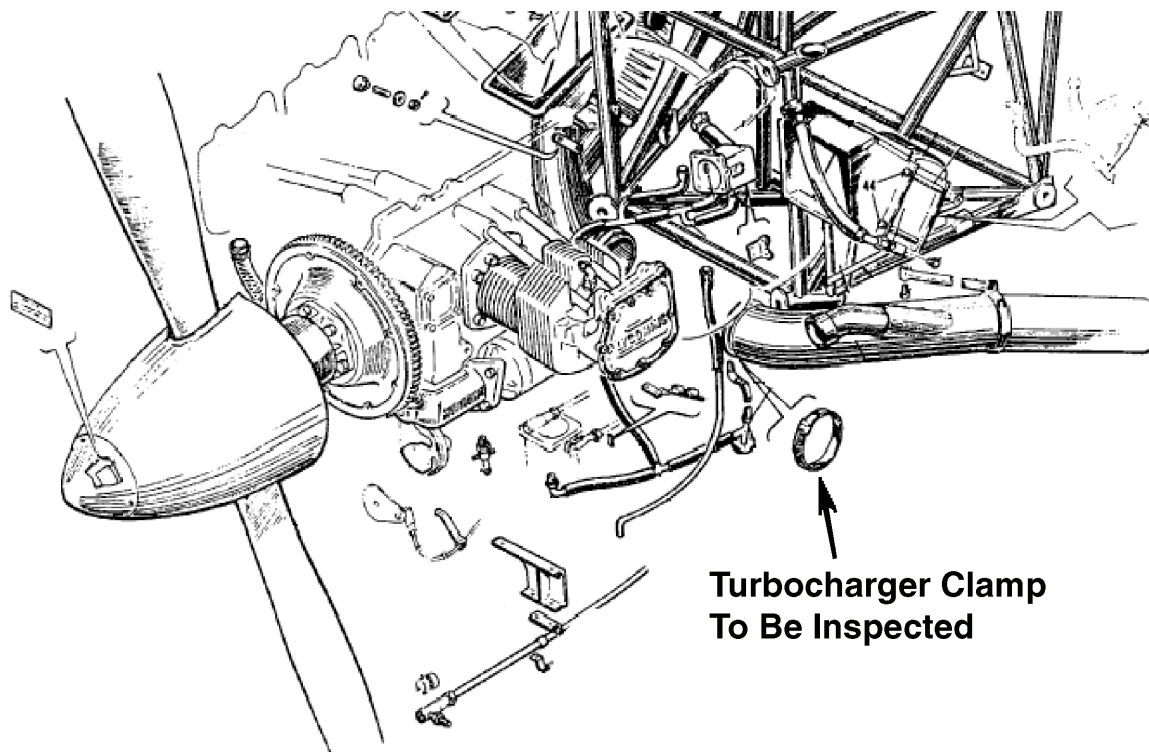

Figure 1
1. Remove the engine cowling, as required, (ref. Service Manual 753-564, Section VIIIB) to gain access to the turbocharger clamp for inspection (Ref. Figure 1).